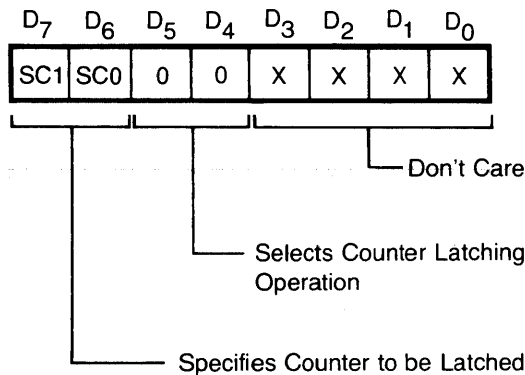

Figure 3-3. PIT Counter Register Latch Control Word Format
- a. Write counter register latch control word (figure 3-3) to port 00D6. The control word specifies the desired counter and selects the counter latching operation.